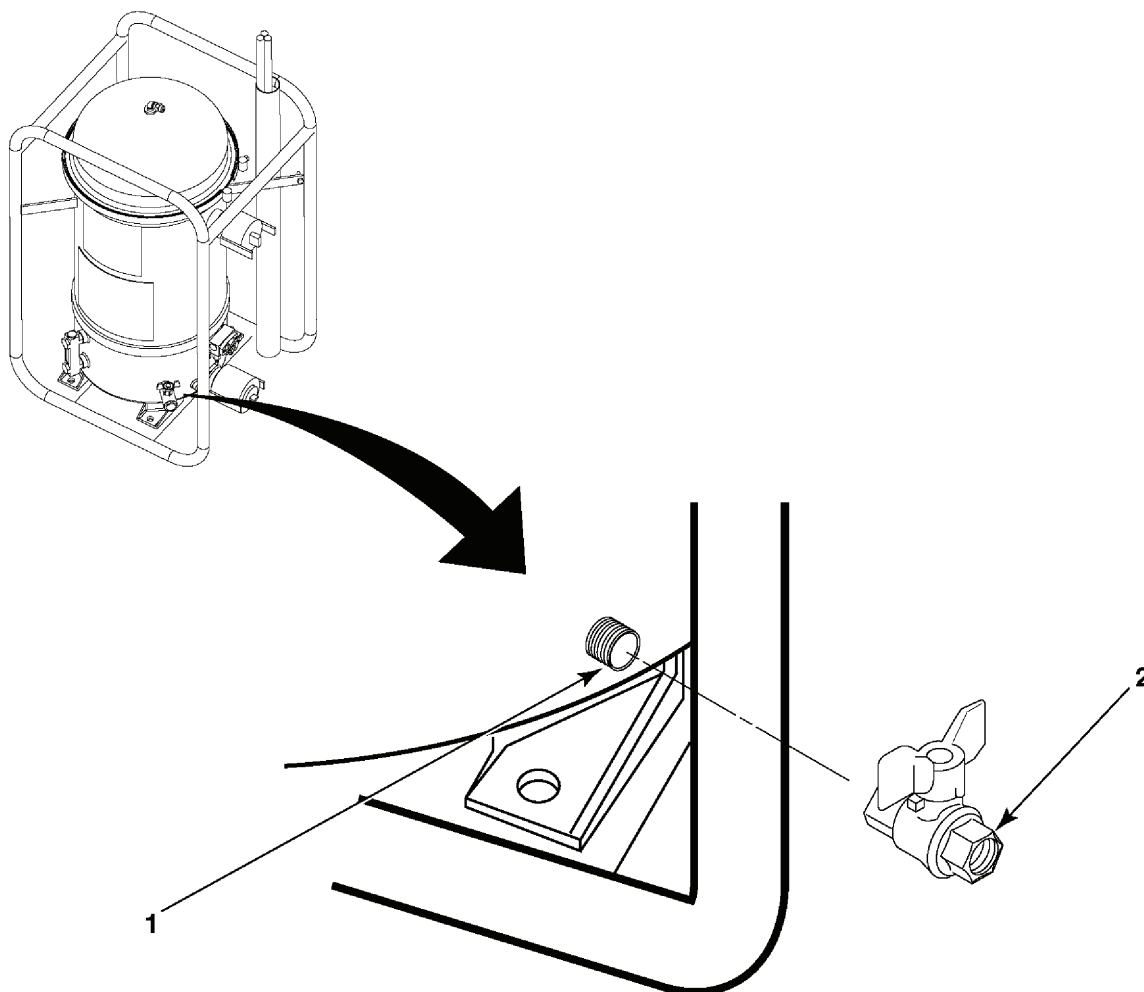

Figure 1. Drain Valve Replacement
Unscrew drain valve (figure 1, 2) from vessel nipple (1).